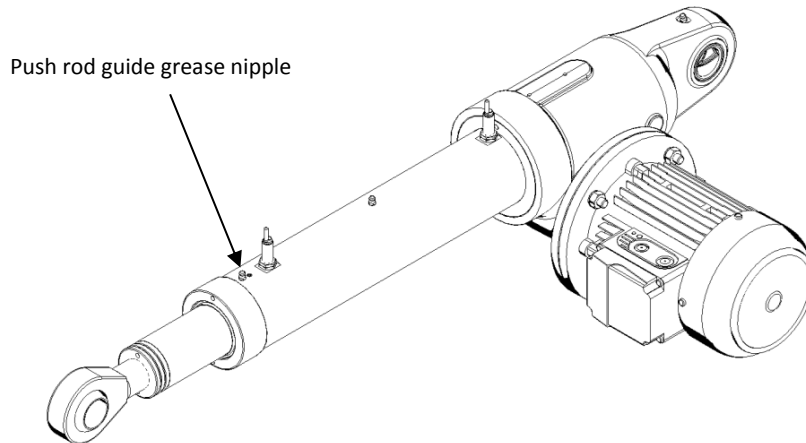

Figure 9.3 – Push rod guide grease nipple
- Relube the push rod guide using proper grease nipple, as shown on Fig. 9.3.